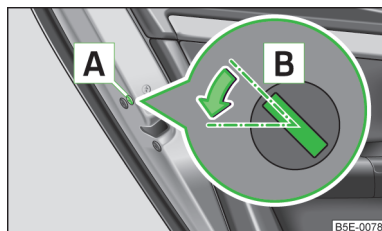

Fig. 202 Rear door: Emergency locking
- Remove the panel [A] » Fig. 202.